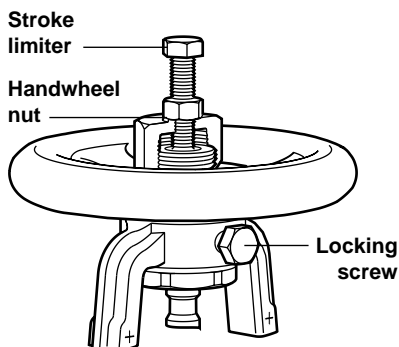

Fig. 5
- 5.4** BSA6T and BSA64T valves are fitted with a throttling plug to allow close control when opening the valve. The number of turns open will affect the flowrate through the valve. Once correct flowrate is obtained ensure the locking screw and stroke limiter (see Fig. 5, page 7) are tightened. This will minimise any vibration. The effect of valve opening for each valve size can be seen in the chart, page 7.